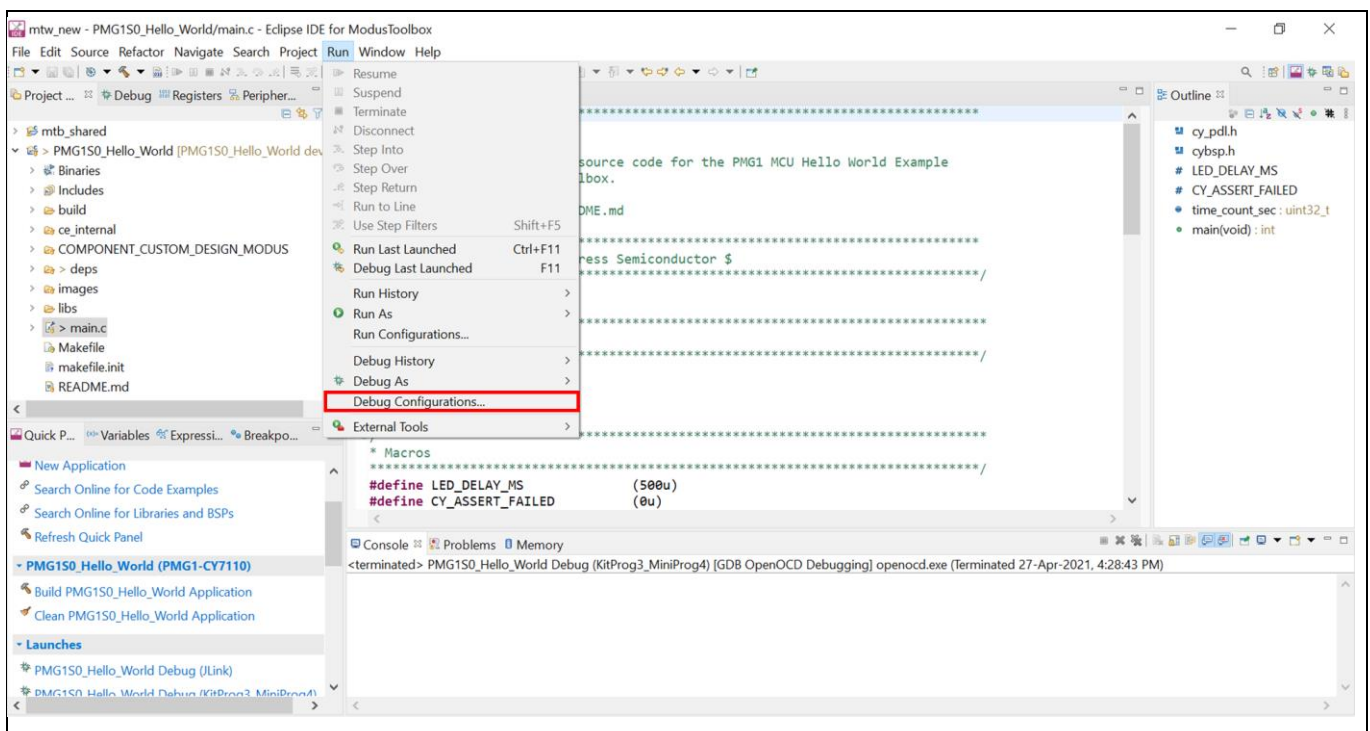

Figure 43 Selecting debug configurations from the Run menu
7. Select **Run > Debug configurations**, as shown in **Figure 43**.